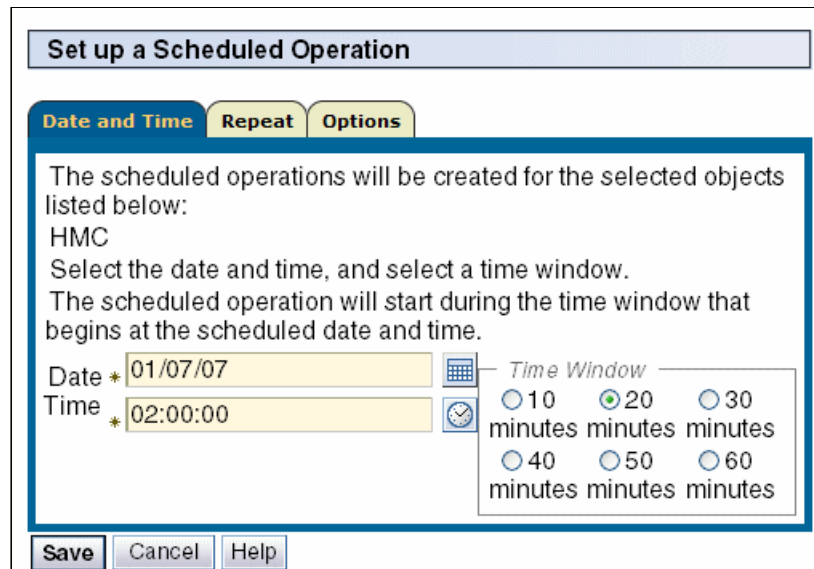

Figure 11-4 Set up a Scheduled Operation
3. On the Date and Time tab, select the date and time, and time window for the first backup, as shown in Figure 11-4. The scheduled operation will start at that time window.